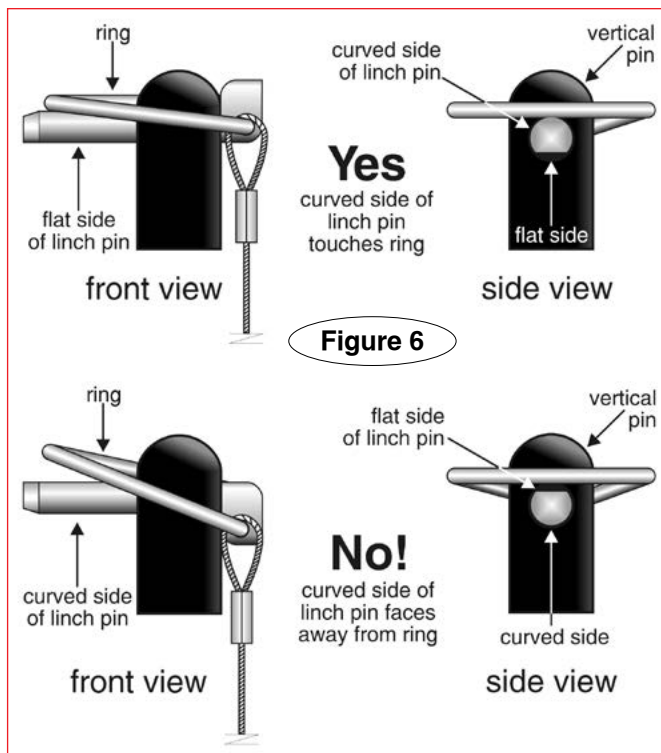

Figure 6
5. Insert the linch pins (Figure 6) through the upper holes in the vertical pins on both QDs.
less they are properly locked in place over the vertical pins on both quick-disconnects. Refer to Figure 6.